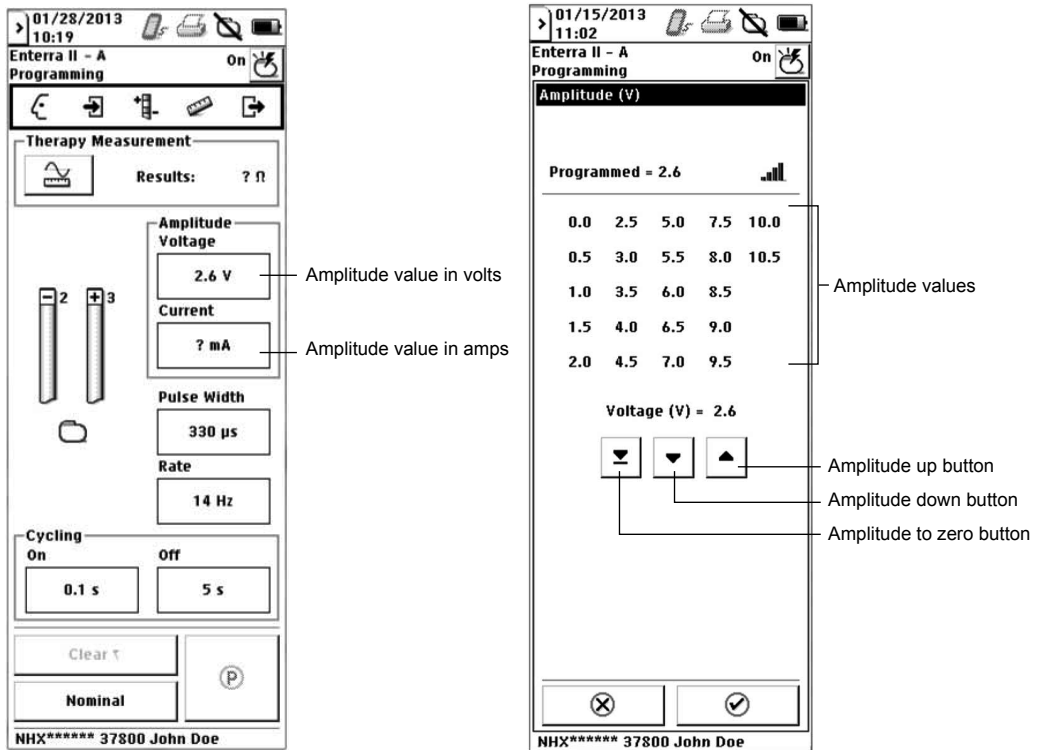

Figure 22. Programming amplitude and amplitude resolution.
2. Select the **Amplitude Voltage** input box or the **Amplitude Current** input box (Figure 22).